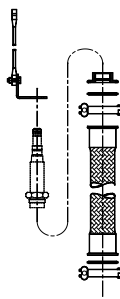

Figure 3
- Transparent Flexible standoff - used when equipment vibration is a concern (see Figure 3)